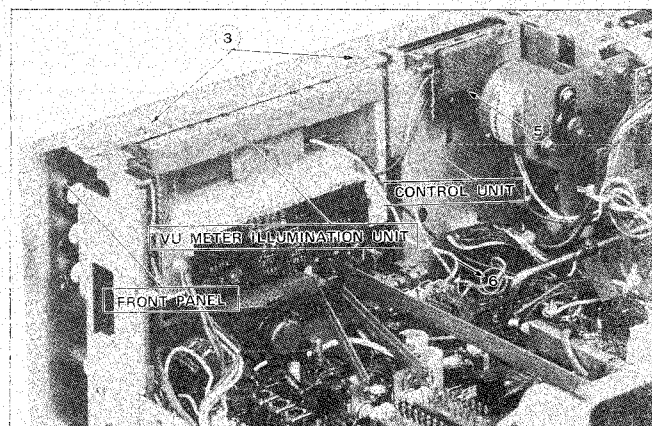

Figure 9
- ④ Hold a lower part of the VU meter to push it toward the inside of the set and it is then possible to detach the VU meter from the front panel.
- ⑤ Remove the one screw retaining the LCD illumination P.W.B. to the control unit and it is then possible to detach the P.W.B. from the control unit (See Figure 9).
- ⑥ Withdraw backward the flat cable connected to the control unit. (See Figure 9).